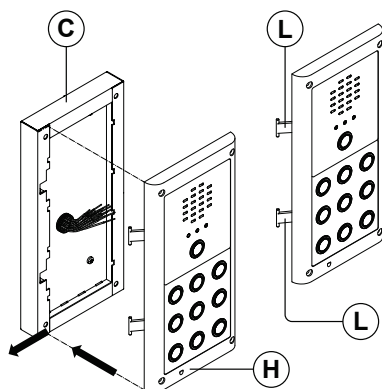
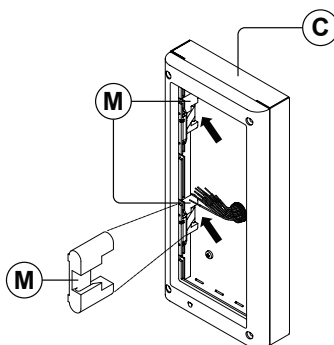

Fig. 57
Fig. 58
5. Next take the frame's hinges **(L)** and hook the module support frame **(H)** to the surface box **(C)**, starting from the left following the guide arrows, as shown in **Fig.57**. Ensure that the frame's hinges **(L)** (**Fig.57**) fit inside the relevant hinge mounts **(M)** inside the surface box **(C)**, following the guide arrows, as shown in **Fig.58**;